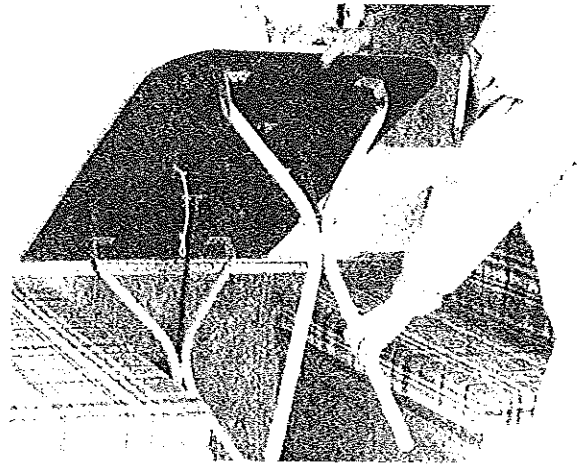

FIGURE 37
37. Extend the table legs completely so that both leg supports lock into position. Set table upright and check to insure it is stable. See Figure 37.
11. Secure the dinette table by locating it on the rests between the bench seats. See Figure 37.